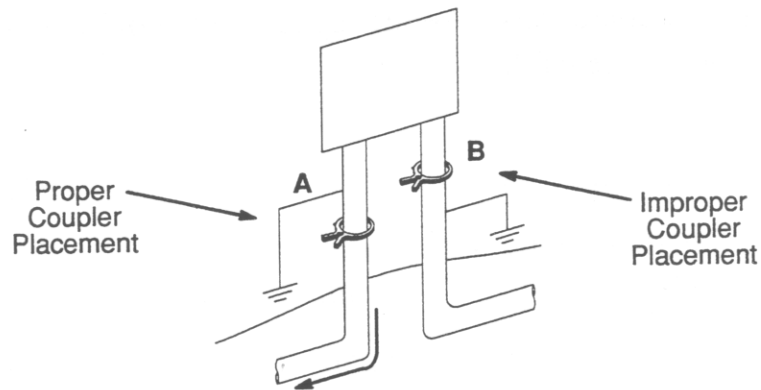

Fig. 3-3 Dyna-Coupler Placement with Ground Bonding
1.9 Refer to Fig. 3-3. Place the Dyna-Coupler on the cable between the ground bonding and the point where the cable enters the earth as in A. If the placement is above the ground bonding as in B, the tone is not coupled onto the cable.